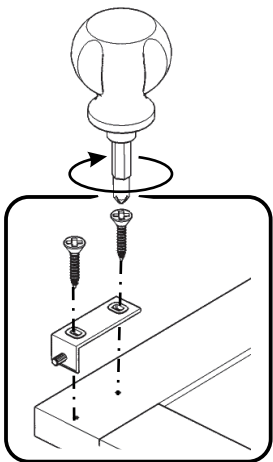

Figure 12
Attach Hinges to Doors (N) and (O) with Wood Screws into pre-drilled holes. (See Figure 12)